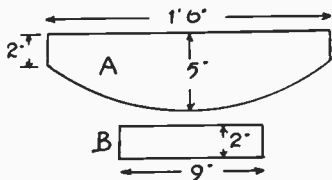

Fig. 1—The sides and ends
The sides and ends are drawn in Fig. 1. Wood of $\frac{3}{4}$ in. thickness or a little more could be used here, free from knots and with a smooth outside surface. The inside is not so important, but the rougher kind of timber should be well glasspapered, to lessen danger of splinters. The bottom of the side pieces (A) is cut to a smooth curve, which can be described either by the old